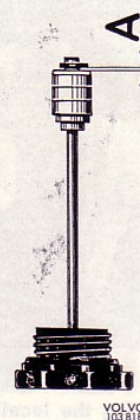

Fig. 107 Damper plunger clearance
N.B. After the valve has been fitted on the carburettor, remove the screw (A, Fig. 107) on the by-pass valve. If the screw is not removed and it loosens, it will jam the cam so that the throttle cannot be closed. The only purpose the screw has is to keep the by-pass valve components together before being fitted on the carburettor.
If the engine does not react properly during acceleration, the reason may be a faulty clearance on the damper plunger, the axial clearance of which (see A, Fig. 107) should be 0.5–1.1 mm (0.02–0.04").
If the engine does not react properly during acceleration, the reason may be a faulty clearance on the damper plunger, the axial clearance of which (see A, Fig. 107) should be 0.4–0.8 mm (0.016–0.032").